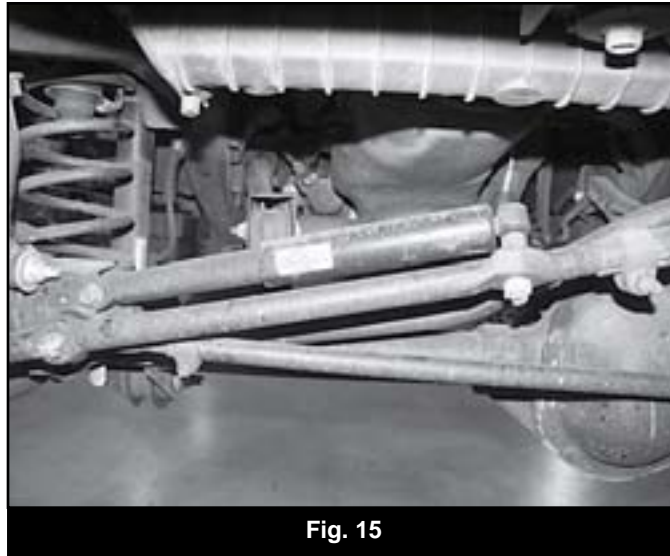

Fig. 15
35. Disconnect the steering stabilizer from the axle and retain hardware. Remove the steering stabilizer from the drag link by removing the nut and dislodging the tapered stud with a pickle fork (Fig 15).